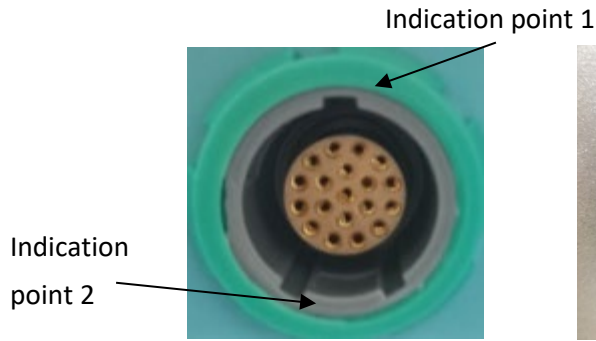

Figure 6-3 Probe socket
- a. Find the indication point 1 and 2 on the probe socket indication point 3 and 4 as shown in Figure 6-3 & 6-4 ;